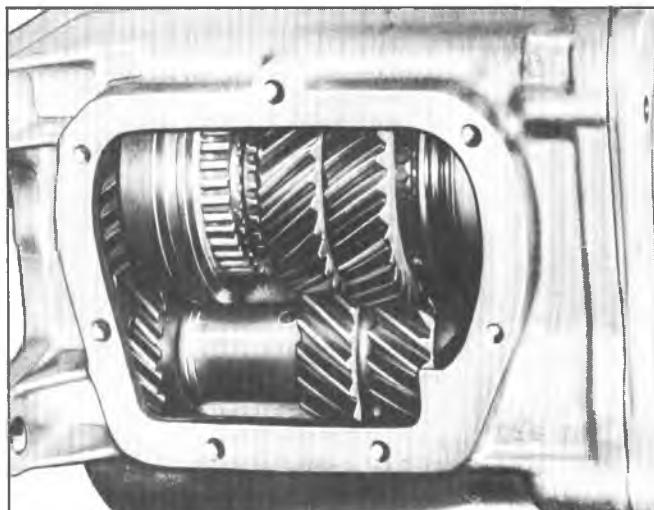

Fig. 6B--Third and Fourth Speed Synchronizer Clutch Sleeve in Fourth Gear Position
- NOTE: Slide 3-4 synchronizer clutch sleeve to 4th speed gear position (forward) before trying to remove mainshaft assembly from case (fig. 6B).
9. Unload bearing rollers (17) from main drive gear and remove fourth speed synchronizer blocker ring.
CAUTION: Before attempting to install main-shaft assembly to case, slide the 3-4 synchronizing clutch sleeve forward into fourth speed detent position (fig. 6B).